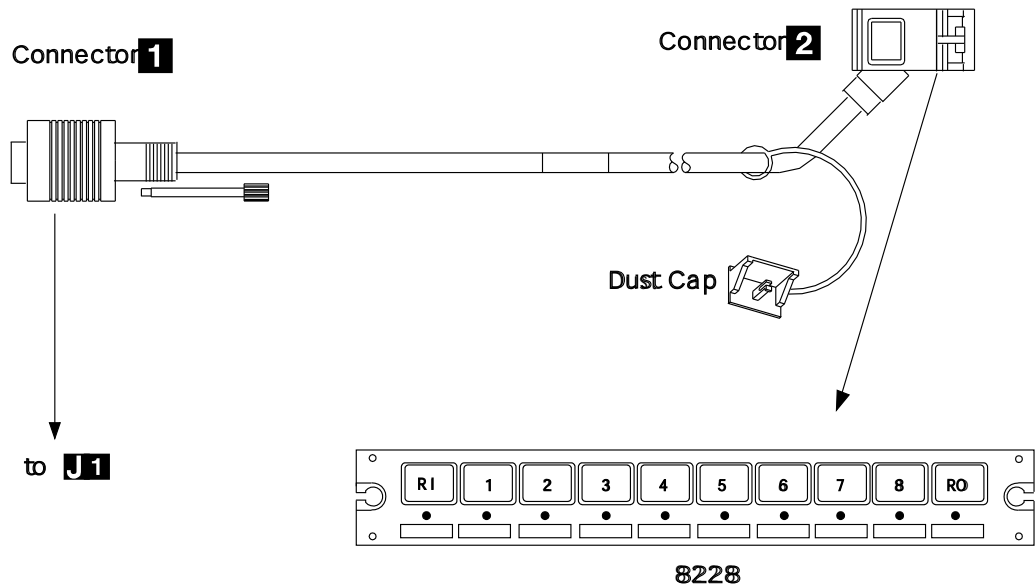

Figure 3-4. Connecting the 3745 17A to a LAN
- b. ____ Refer to Figure 3-4 on page 3-8, and using a sticker, identify the cable (PN 76F9440 or 76F9441) as the "3745 X cable" (X from 1 to 4, as you can have up to four 3745s connected to the same Service Processor).
- c. ____ Plug the connector **1** to **J1** in the console tailgate (see Figure 3-4 on page 3-8 and Figure E-2 on page E-2).